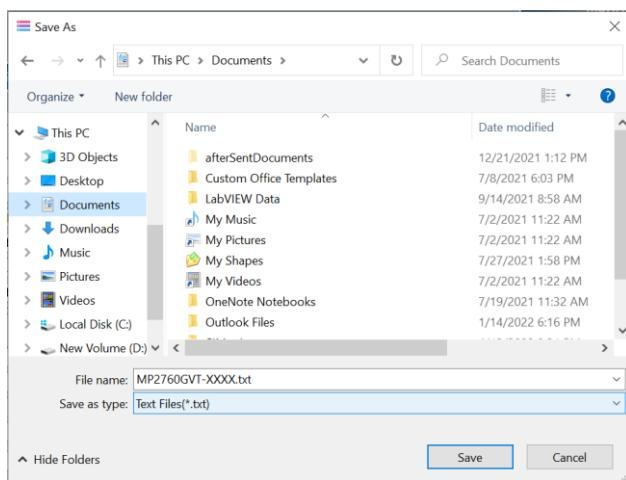

Figure 14: Save the Exported Configurations
- Find a location for the exported file and click “Save”. The configurations are saved in a text file (see Figure 14 on page 13).